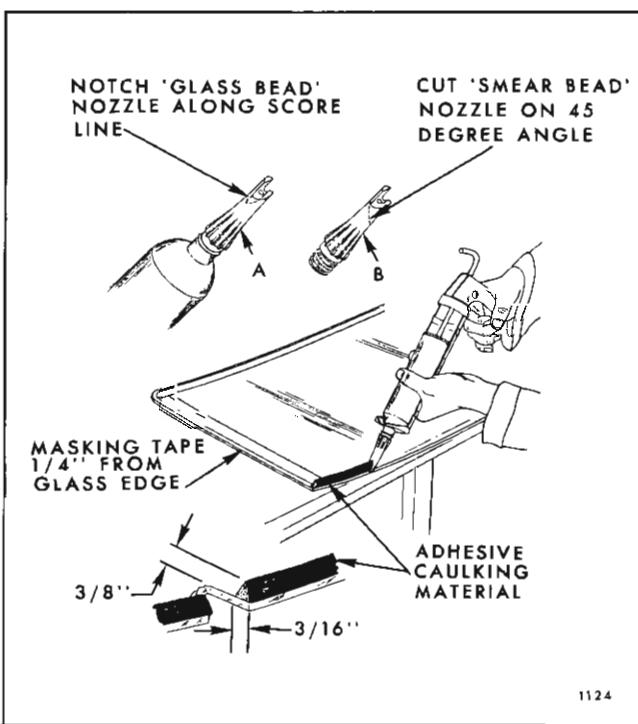

Fig. 1C12—Adhesive Caulking Installation—Extended Method
4. Clean entire inner surface of glass, carefully apply 1" wide masking tape around entire perimeter of inside surface of glass $1/4"$ inboard from outer edge of glass to eliminate excessive clean-up time after installation (Fig. 1C12).
7. Cut off tip of one nozzle along score line (Fig. 1C12). This nozzle will be used to apply bead of adhesive caulking material to glass. Cut tip off other nozzle at 45° angle 1" below end of nozzle. This nozzle will be used to apply "smear bead" of adhesive caulking material to pinchweld flange.